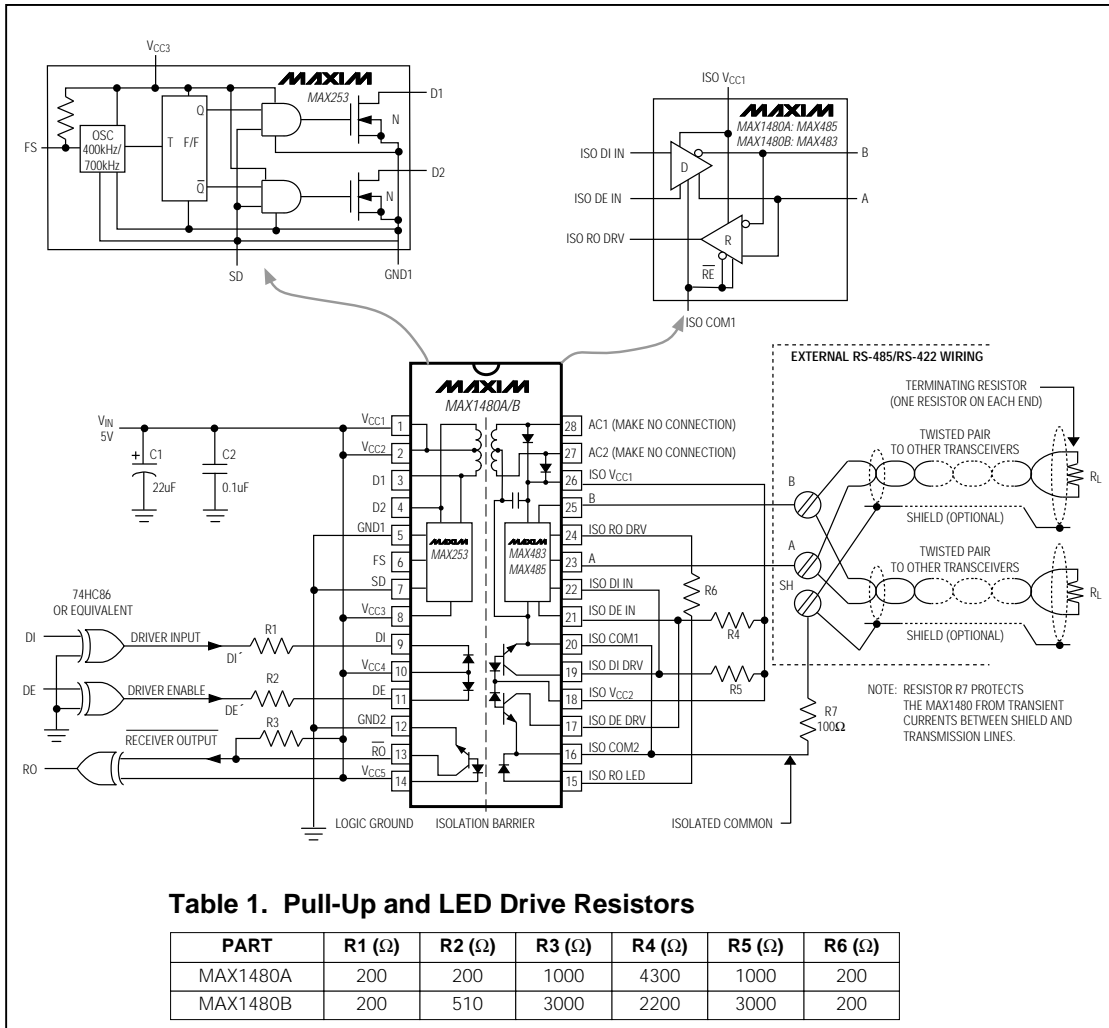
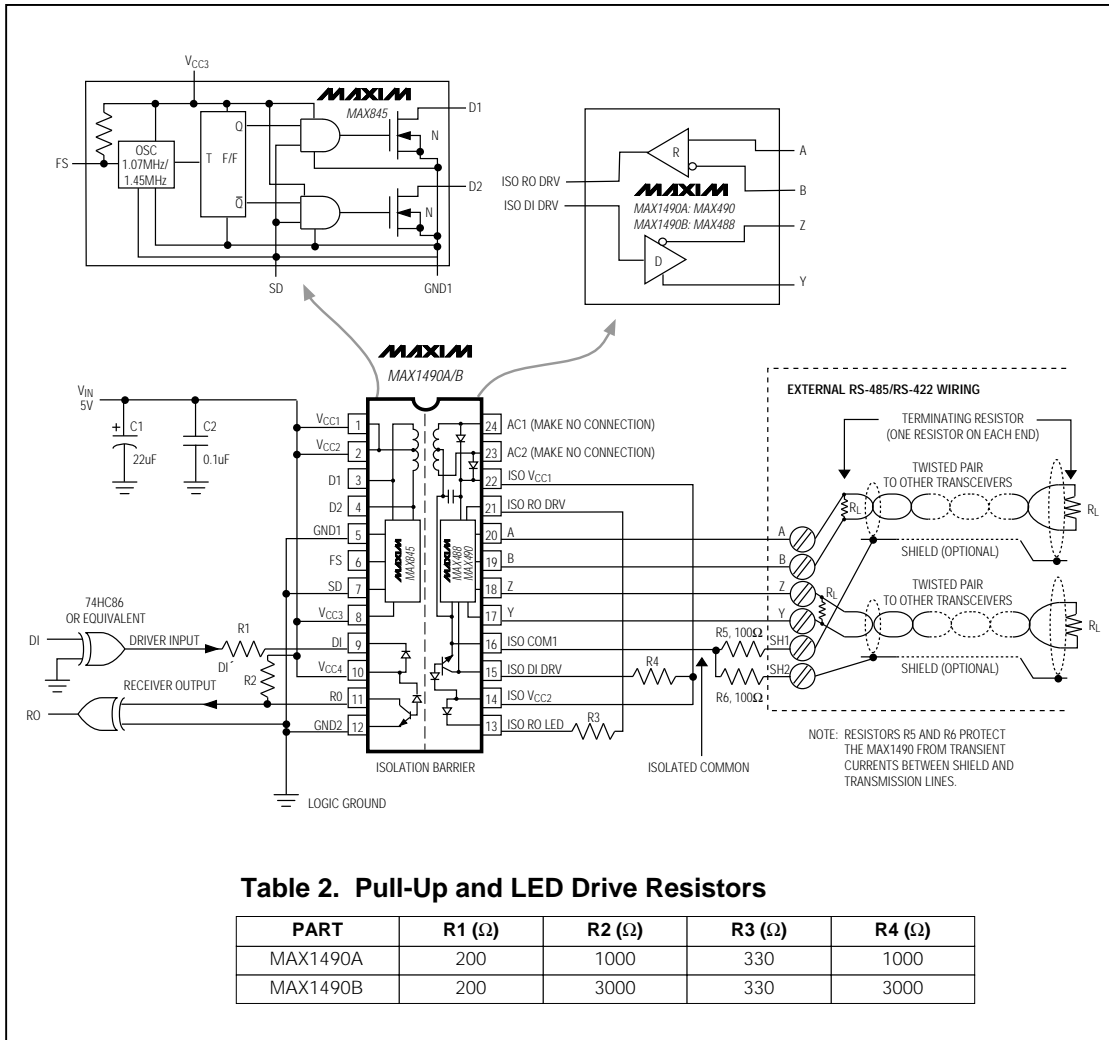

Figure 1. MAX1480A/MAX1480B Detailed Block Diagram and Typical Application Circuit
Figure 2. MAX1490A/MAX1490B Detailed Block Diagram and Typical Application Circuit
**Note:** For DE+ and DI+ pin descriptions, see *Detailed Block Diagram and Typical Application Circuit* (Figure 1 for MAX1480A/B, Figure 2 for MAX1490A/B).
The MAX1480A/MAX1480B/MAX1490A/MAX1490B are complete, electrically isolated, RS-485/RS-422 data-communications interface solutions. Transceivers, optocouplers, a power driver, and a transformer in one standard 28-pin DIP package (24-pin for the MAX1490A/B) provide a complete interface. Signals and power are internally transported across the isolation barrier (Figures 1, 2). Power is transferred from the logic side (non-isolated side) to the isolated side of the barrier through a center-tapped transformer. Signals cross the barrier through high-speed optocouplers. A single +5V supply on the logic side powers both sides of the interface. The MAX1480A/B offer half-duplex communications while the MAX1490A/B feature full-duplex communication. The functional input/output relationships are shown in Tables 3–6.
\* For DE1 and DI1 pin descriptions, see *Detailed Block Diagram and Typical Application Circuit* (Figure 1 for MAX1480A/B, Figure 2 for MAX1490A/B).
The MAX1480A/MAX1480B/MAX1490A/MAX1490B are specified and characterized using the resistor values shown in Table 1 of Figure 1 and Table 2 of Figure 2. Altering the recommended values can degrade performance.
The isolated common may be completely floating with respect to the logic ground and the effective network ground. The receiver input resistors will cause the isolated common voltage to go to the mean voltage of the receiver inputs. If using shielded cable, tie the isolated common to the shield through a 100Ω resistor. In the case of the MAX1490, each shield should have its own 100Ω resistor (Figures 1, 2, 13, and 14).